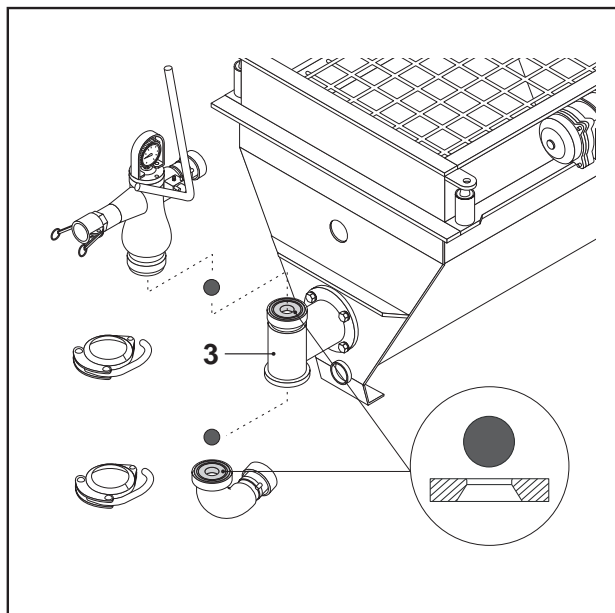

FIG.42
- Disassemble the valves and wash them well, eliminating any deposits (FIG.42).